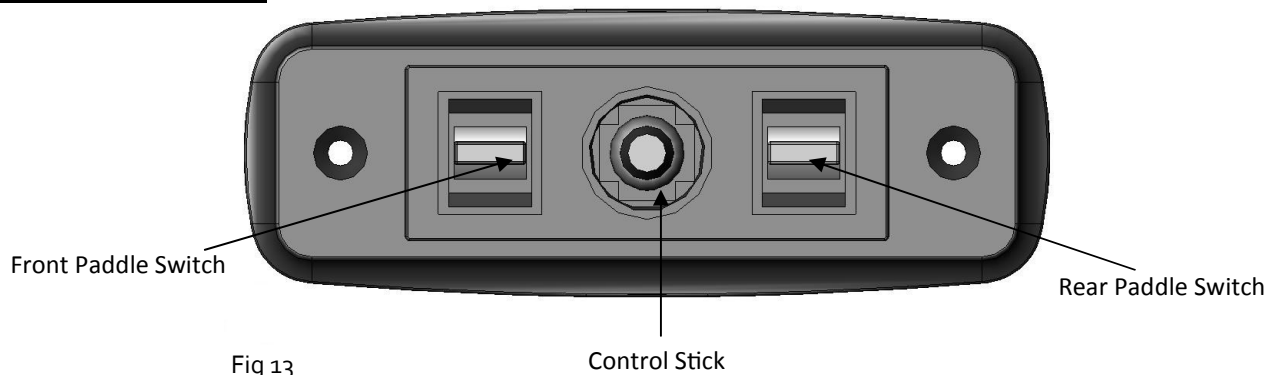

Fig 13
1. Using the forward paddle switch, the controller and the rear paddle switch (See Fig 13.), move the seat into the desired seating position. The seat adjust controls are as follows: